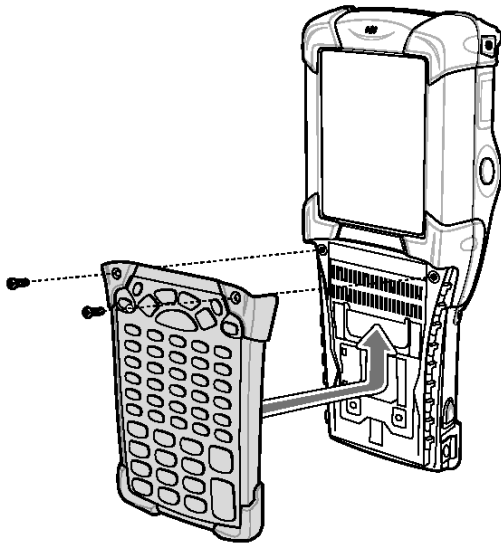

Fig. 4: Changing the keypad
6. Snap on the keypad in the direction of the arrow (fig. 4) and push it upwards until the boreholes for the screws are over the threaded sleeves.
8. Push the keypad in the direction of the arrow (fig. 4) until the boreholes on the keypad are positioned over the threaded holes on the enclosure. Tighten the screws (torque = 0.565 Nm / torque = 5.0 in-lbs), 0.5 Nm advisable